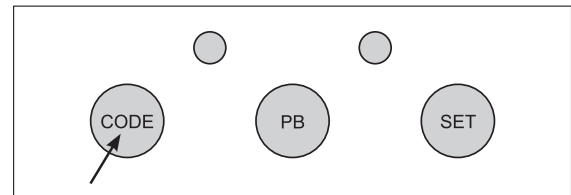

Fig. 9
- 1 Press the **CODE** button for 2 seconds the courtesy LEDs will flash to indicate Code Learn (Fig. 9).